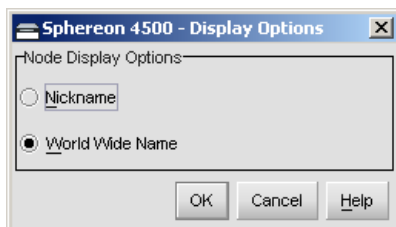

Figure 2-91 Display Options Dialog Box
3. If nicknames are configured (through the SAN management application) and are to be displayed instead of WWNs, click *Display Options*. The *Display Options* dialog box displays (Figure 2-91). If nicknames are not configured, go to step 5.